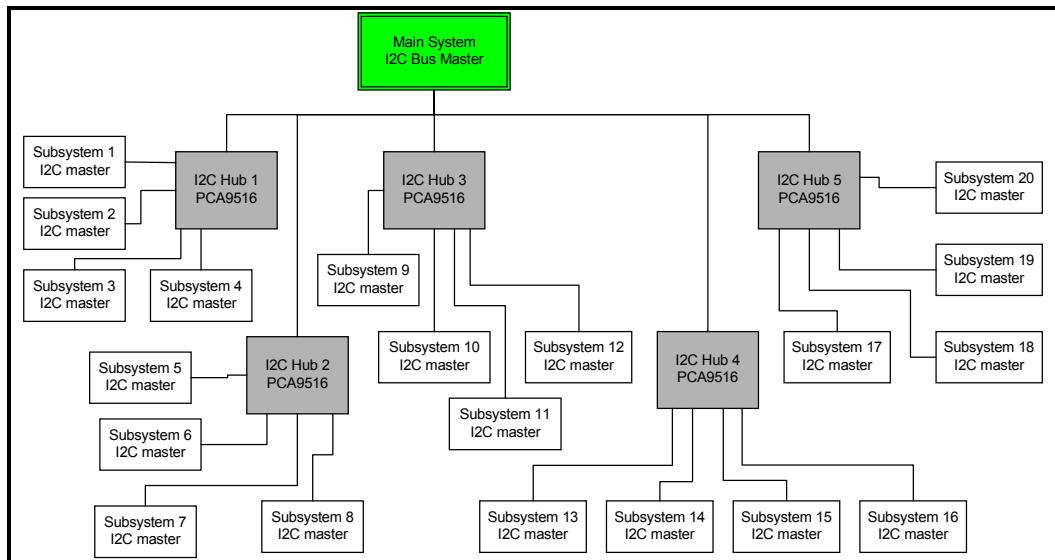

Figure 33. Twenty Subsystem Point to Point I²C System
1. **Question:** Some engineers working on a rack mount server unit liked the idea of the PCA9516 and being able to isolate the bus but they need master/slave capability on both sides. The application is a server management board. It has I²C interface to up to twenty 1U servers with an embedded controller and the servers need to be able to master from any one of the twenty 1U servers. Can they use five 9516 hubs in parallel with the Main System I²C Bus Master so every subsystem can talk to every other subsystem like is shown in Figure 33?